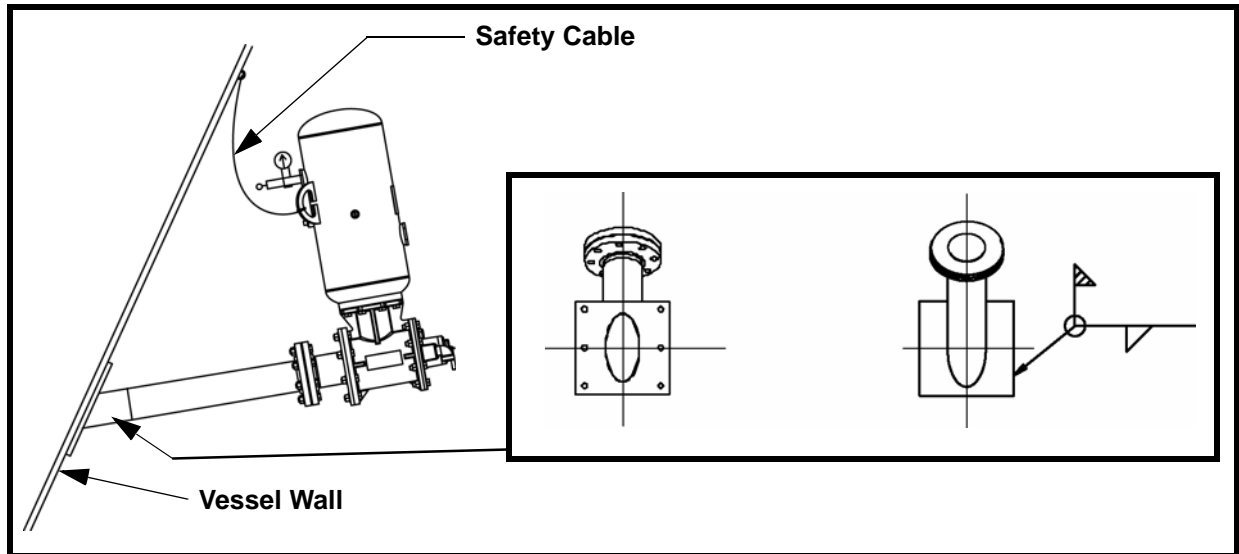

Figure 3. Installing 30-Degree Mounting Plate
Each air cannon's serial and model number is shown on a plate attached to the tank (see Figure 3). Serial and model numbers must be referenced when ordering parts from Martin Engineering or representative, and on all correspondence.
- a. If using 30-degree mounting plate (Figure 3), cut hole in storage vessel for each mounting plate using templates on last page of this manual. If templates are missing, contact Martin Engineering or representative. Place mounting plate over hole and field weld to vessel skin.